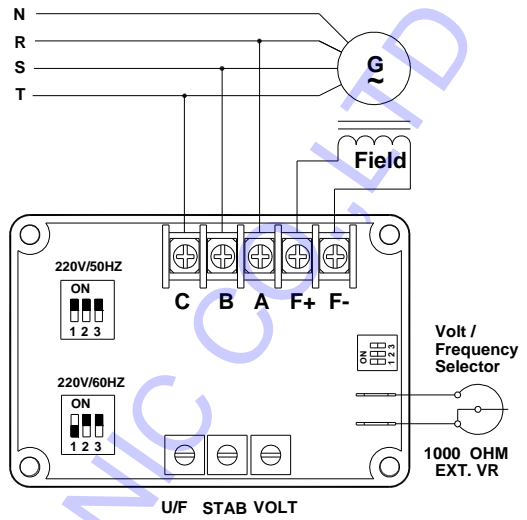
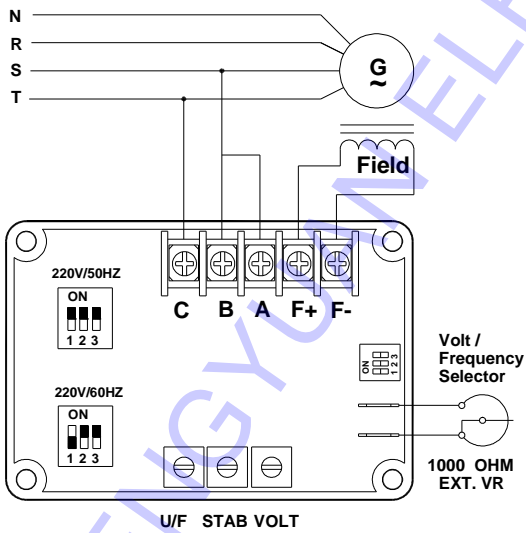

Figure 2
Figure 3
1. When the rated phase voltage of the generator is 220VAC, the input terminals B, C and sensing terminals A, C can join together (as show as Figure3. It's the original setting).or connect independent.(as show as Figure2).
B,C,F+,F- wires are not connected well.	Please refer to Figure 2 ~ Figure 5.
The exciter flash is too large or wiring doesn't connect well.	Please refer to the Generator Manual. Please refer to Figure 2 ~ Figure 5.